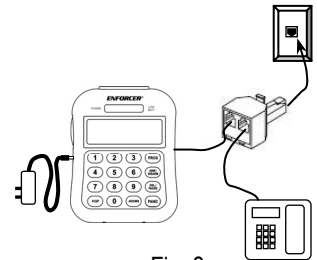

Fig. 3
7. Connect one end of the included telephone cable to an existing Touch-Tone line wall socket, and the other end to the dialer's "LINE" jack. Optionally, use the included dual outlet telephone jack adapter to connect an extension telephone using the telephone's cable (not included) (Fig. 3).